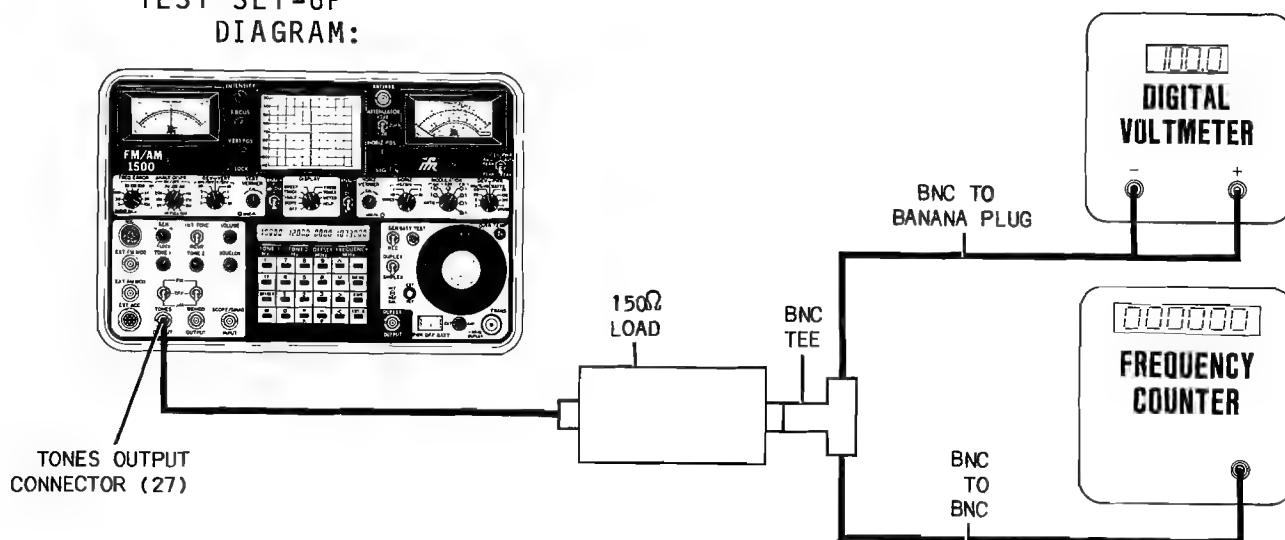

Figure 3-5 Dual Tone Generator Test Set-Up Diagram
1. Connect test equipment to FM/AM-1500 as shown in Figure 3-5.
2. Rotate TONE 1 Control (33) fully cw and verify that low-pitch audio chatter is heard and that CRT (50) displays a stair-step pattern.
3. Repeat Step 2 for TONE 1 Hz settings on LCD (21) of: 0.1, 0.4, 0.8, 1.6 and 3.2 Hz.
4. Rotate DISPLAY Control (51) to "METER".
5. Set TONE 1 Hz on LCD (21) to 6.4 Hz. Verify DVM reads > 2.5 VRMS and that Frequency Counter is within 0.01% of TONE 1 Hz setting on LCD (21). Also verify the digital Demod Count meter on the CRT (50) displays the value of the TONE 1 Hz setting ( $\pm 0.1\%$ ).
6. Rotate TONE 1 Control (33) fully ccw and verify that DVM reads approximately 0 VRMS and Frequency Counter reads 0 Hz.
7. Repeat Steps 5 and 6 for TONE 1 Hz settings on LCD (21) of: 12.8, 25.6, 51.2, 409.5, 409.6, 1000.0, 5000, 9999, 13107 and 20000 Hz.
8. Rotate TONE 1 Control (33) fully ccw. Rotate TONE 2 Control (31) fully cw and repeat Steps 2 thru 7, using TONE 2.